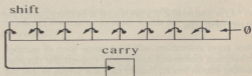

Fig 1
Because we are doing eight-bit multiplication we will have to test each bit of the multiplier (MPR), but unfortunately there is no instruction with which we can sequentially test the bits. It is only the bits (flags) in the status register (SR) which can conveniently be tested. This is a limitation of most microprocessors, and as a result of this limitation it will be necessary to shift the byte and test the bit. What actually occurs when shifting is that every bit in the byte will move right or left by one position. The bit which is shifted out of the byte, or 'falls' of the end, is placed into the carry bit of the SR. Fig 1 demonstrates the 'shift' (you will note that the figure demonstrates the left shift, or ASL, to study a right shift, or LSR, then simply reverse the direction of the arrows). There are different possibilities depending on the shifted 'bit' but more of this will be discussed later.